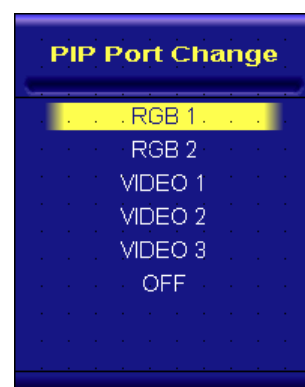

Figure 2
2. Default main screen stays at DVI1 & DVI2→ Press “PIP” KEY→ Figure 2